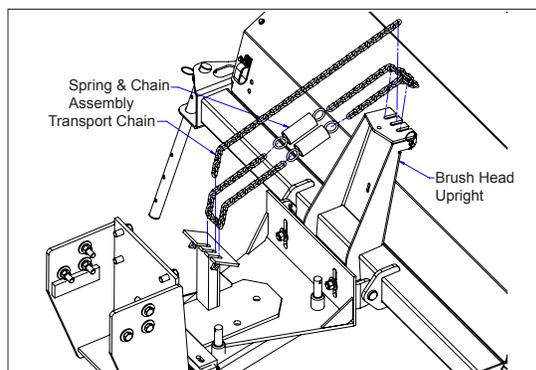

figure 5
5. If necessary, adjust the brush pattern with the spring-chain assembly (figure 5).
- b. Tighten the transport chain (figure 5) or lift cable and lower the sweeper so it supports weight.